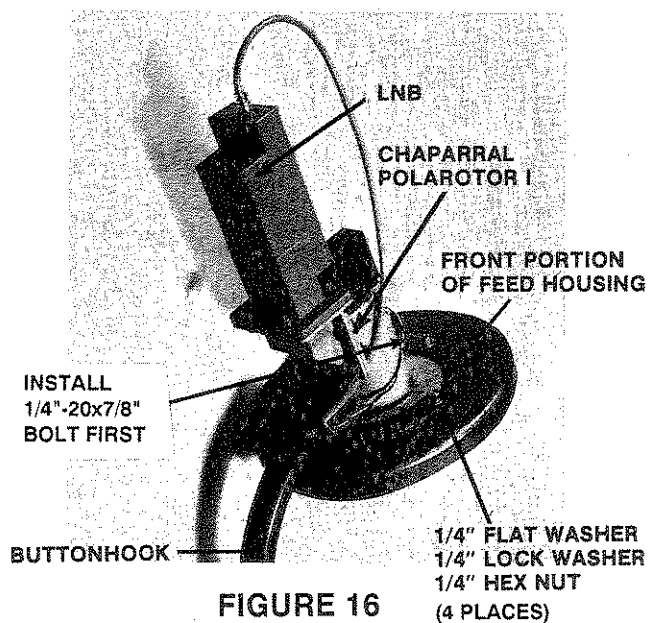

FIGURE 16
STEP 1. Attach the front portion of the feed housing to the feedhorn as shown in Fig.16 with 1/4"-20x7/8" bolts. Where a wind kit is required, place the angle brackets between the housing and the feedhorn. Tighten both bolts. See Fig.17.